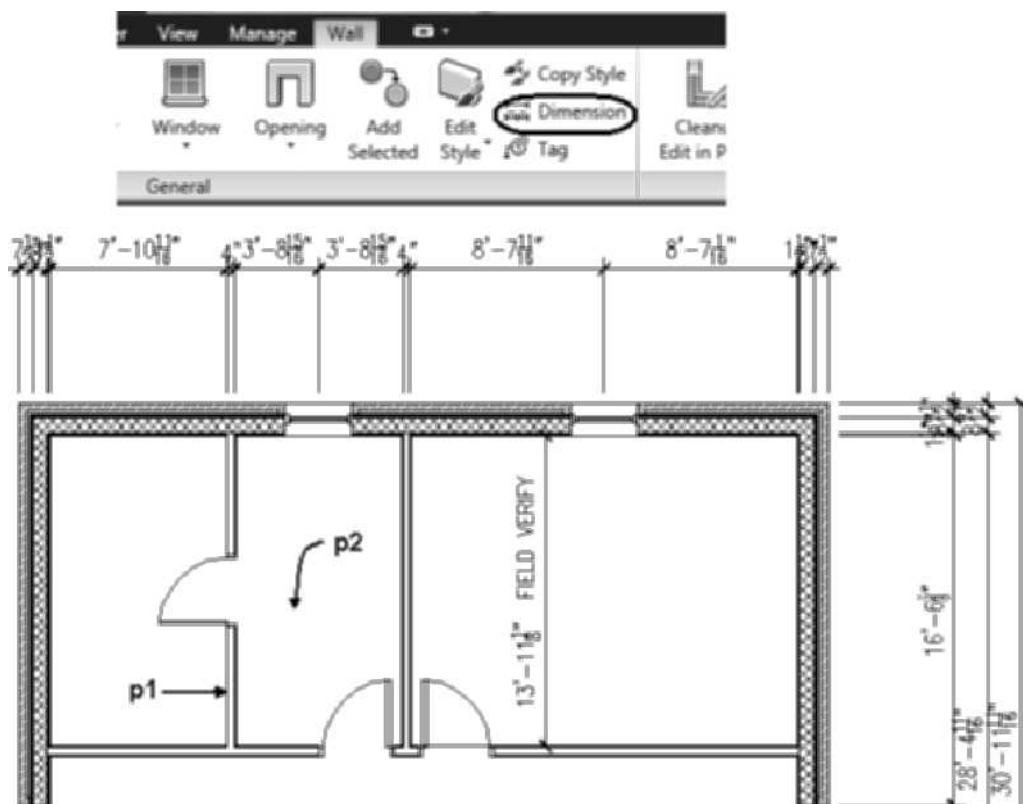

FIGURE 11.8 Placing an AEC Dimension from the Contextual tab
4. Select the interior wall at **p1** as shown in Figure 11.8.
5. Choose **Dimension** from the General panel of the Wall contextual tab. Move the cursor to **p2** as shown in Figure 11.8 to specify the location of the dimension.
6. Press Escape to clear selection. Select the dimension placed at **p2** as shown in Figure 11.8. The style of this AEC dimension is listed as Standard in the Properties palette.